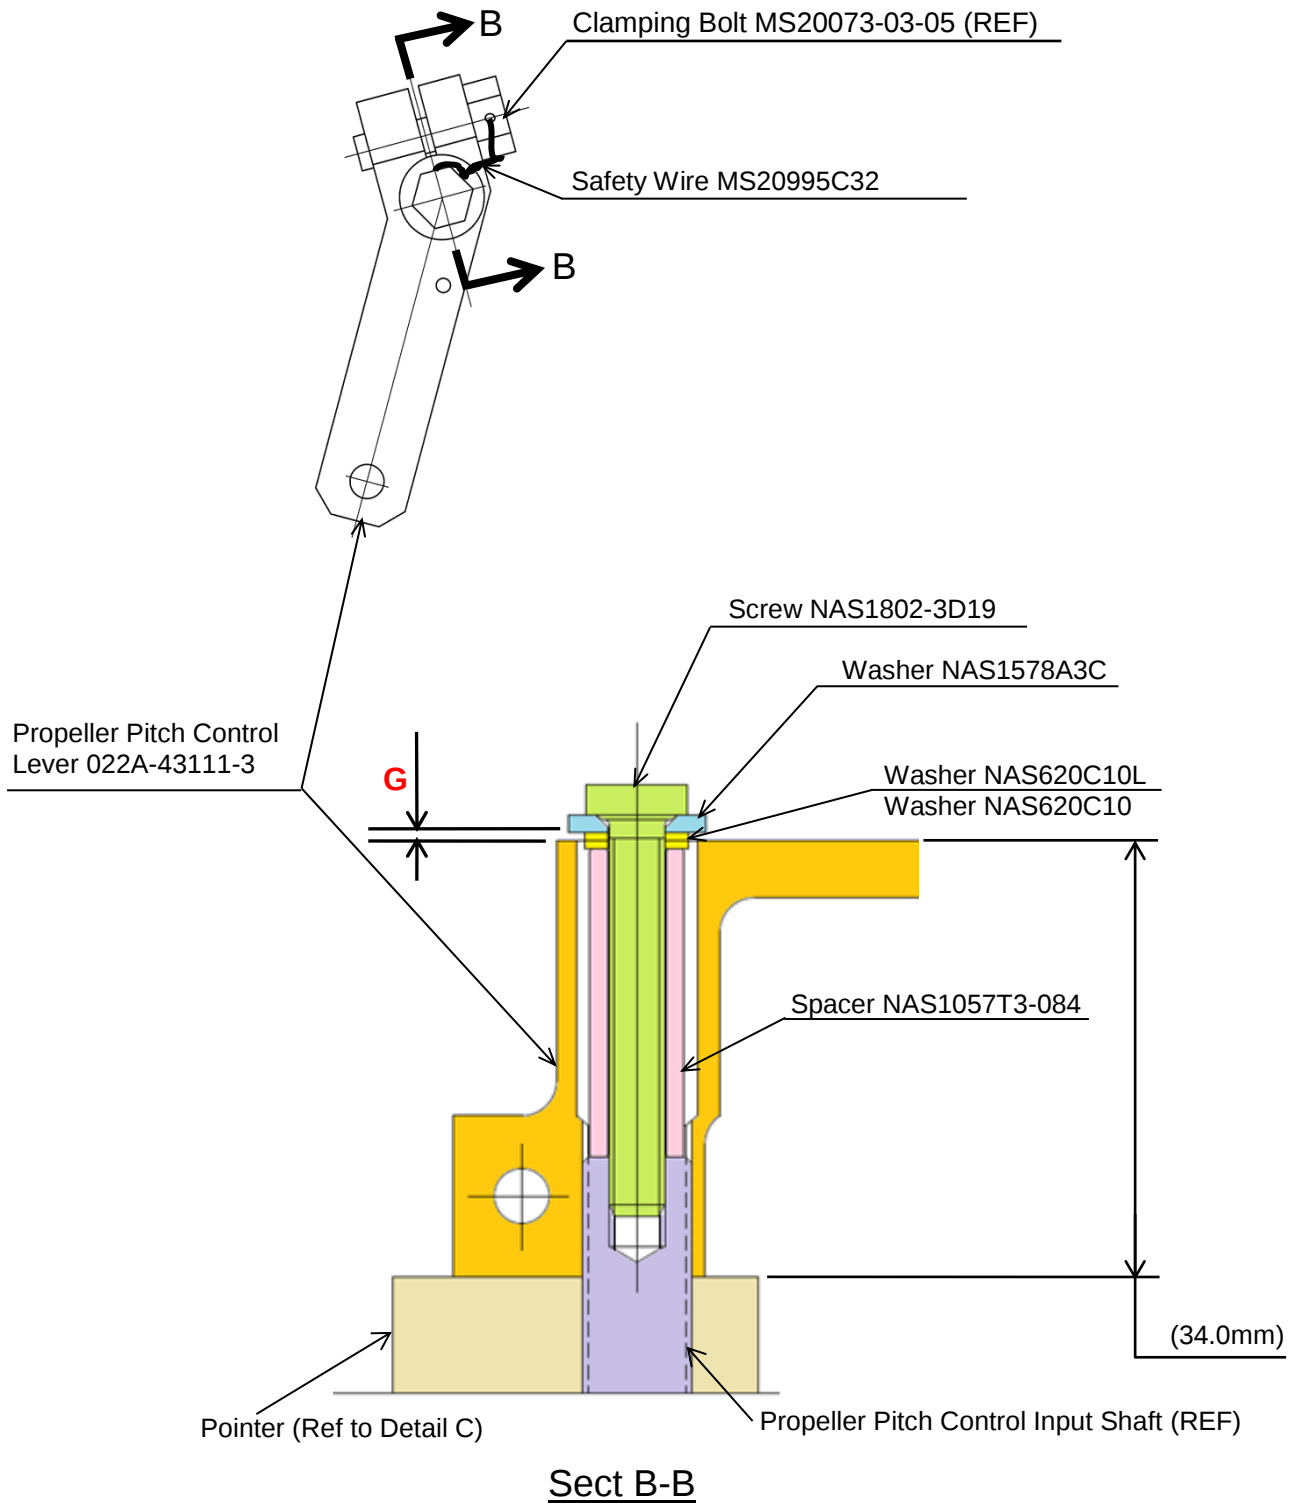

Figure 2 G: Gap between washer(NAS1578A3C) and PPC lever
- (4) Verify that there are at a minimum two (2) full turns of engagement between screw (NAS1802-3D19) and Propeller Pitch Control Input Shaft threaded hole. Torque the screw (NAS1802-3D19) to 10 to 15 in-lbs. Screw (NAS1802-3D19) does not bottom out inside the threaded shaft once required torque is achieved. 1/16" longer or shorter screw may be installed instead of screw (NAS1802-3D19) to obtain required thread engagement.
- (5) Measure the gap "G" (Ref to Figure. 2). If the gap measures $0 < G \leq 2.0$ mm, go to step (7). If out of range, go to step (6).
- (6) Add or remove washers (NAS620C10 and/or NAS620C10L) and repeat steps (3) to (5) until the gap "G" measures $0 < G \leq 2.0$ mm. 1/16" longer or shorter screw may be installed instead of the screw (NAS1802-3D19) for gap adjustment.
- (7) Install the safety wire (MS20995C32) between screw (NAS1802-3D19) and clamp bolt (MS20073-03-05).
- (8) Pull the PPC lever upward by hand and ensure that PPC lever is tightly secured.
- (9) Make sure smooth movement of the PPC lever.